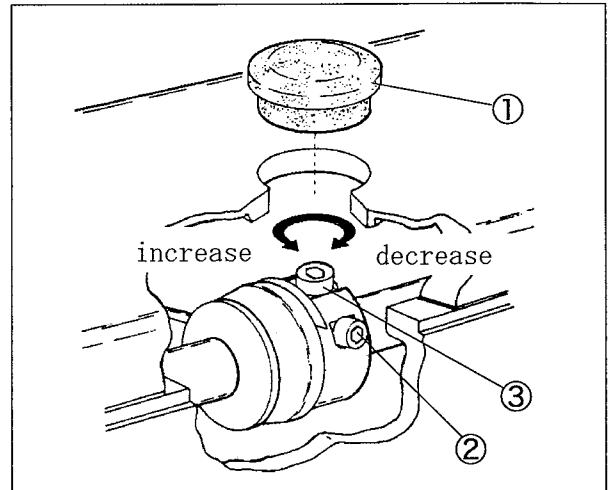

Fig. 6-34
- (3) Rotate the handwheel until the adjusting screw ③ comes to the top position. (Fig. 6-34)
- (4) Turn the adjusting screw ③ to adjust the feeding amount.
- (5) Tighten the screw ② with a tightening torque of 2.5 N·m securely.